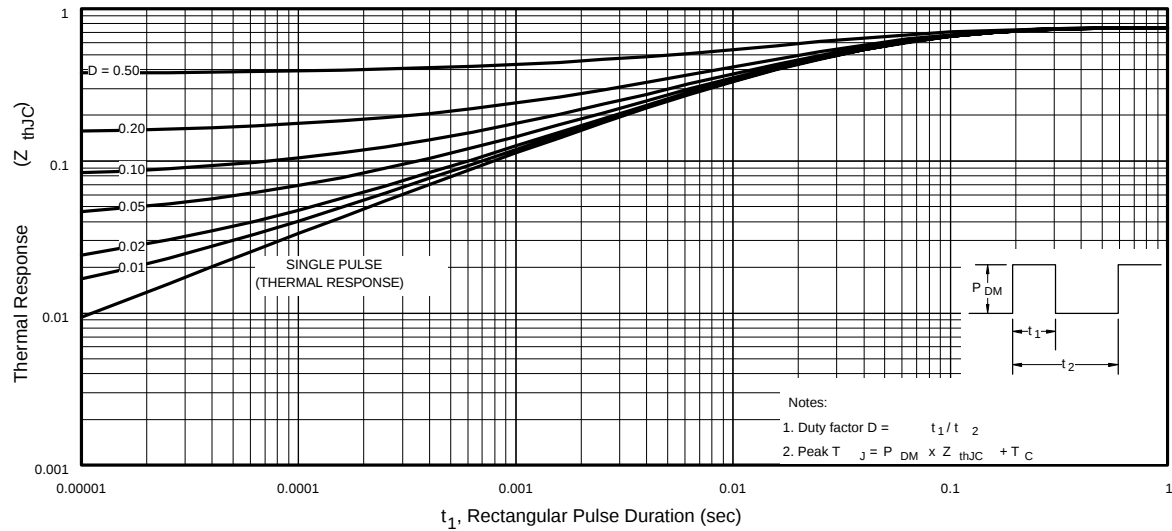

Fig 11. Maximum Effective Transient Thermal Impedance, Junction-to-Case
① Repetitive rating; pulse width limited by max. junction temperature. (See fig. 11)
② Starting $T_J = 25^\circ\text{C}$, $L = 2.2\text{mH}$